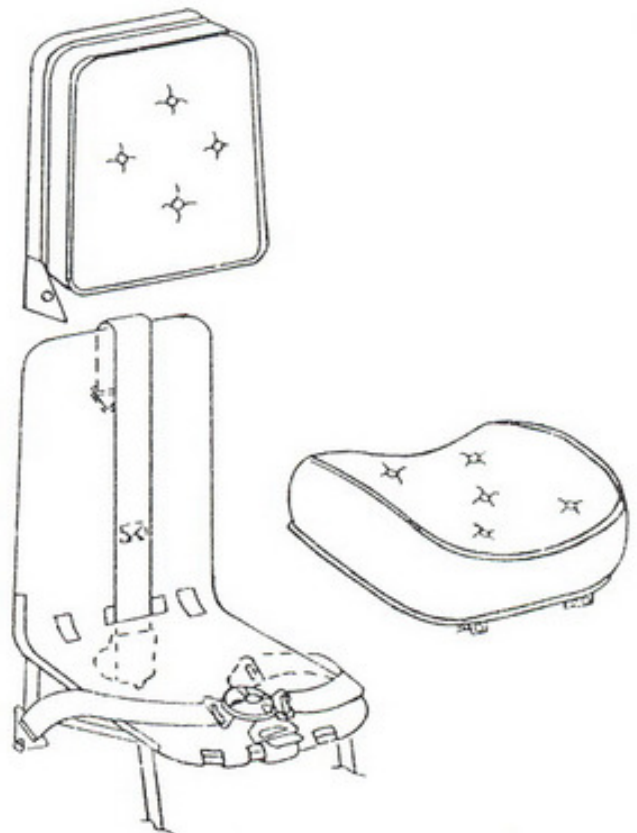

FIGURE 3-2 SEAT BELTS/ACRO HARNESS
- f) Seat Belts - CHECK CONDITION, SECURE rear belt and harness if not in use (see Figure 3-2).
- 1) Seat Belts/Shoulder Harness - FASTENED and adjusted (see Figure 3-2).